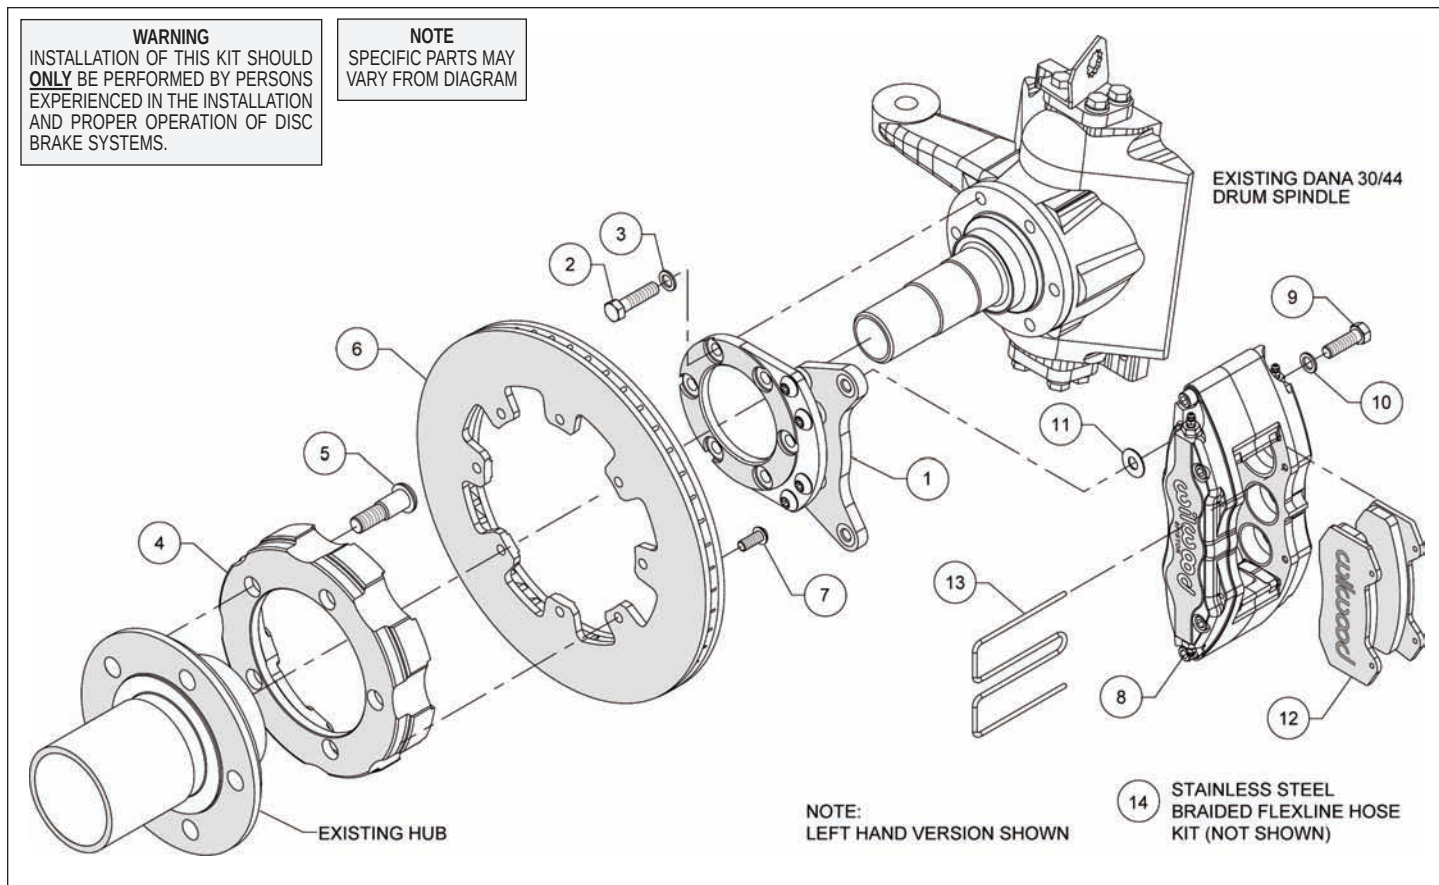
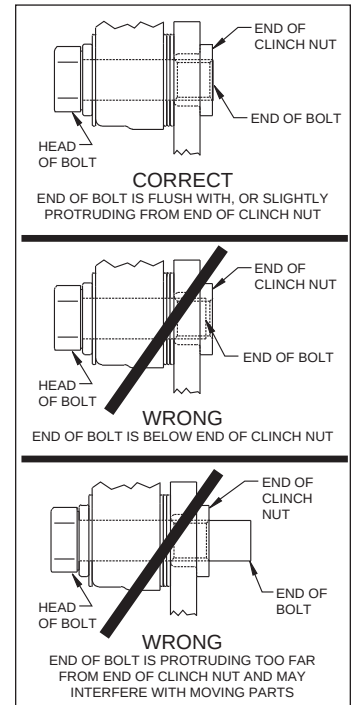

Figure 1. Typical Installation Configuration
Figure 3. Clinch Nut Engagement Diagram
Assembly Instructions (numbers in parenthesis refer to the parts list and Figure 1 on the preceding pages): **CAUTION:** All mounting bolts must fully engage clinch nuts. Be sure to check that all bolts are either flush or protruding through flanged side of clinch nut after shimming, Figure 3.
- Orient the caliper mount bracket (1) as shown in Figure 1 and Photo 1, and install using bolts (2), and washers (3). Ensure that the flanged heads of the clinch nuts in the bracket are facing outboard, Photo 1. Temporarily tighten the mounting bolts. **NOTE:** The bracket must fit squarely against the mount bosses on the upright. Inspect for interference from casting irregularities, machining ridges, burrs, etc. Remove bolts one at a time, apply red Loctite® 271 to the threads and torque to 40 ft-lb.
- Orient the hat (4) and the OEM hub as shown in Figure 1 and Photo 2. **NOTE:** The hat must fit flush against the axle hub or excessive rotor run out may result. Press fit the wheel studs (5) thru the holes in the hat and into the existing hub. **NOTE:** We recommend this procedure be performed by a qualified machinist.
- Orient the rotor (6) and the hat/hub assembly as shown in Figure 1 and Photo 3. Attach rotor to hat using bolts (7). Using an alternating sequence, apply red Loctite® 271 to the threads, and torque to 25 ft-lbs.
- NOTE:** Please reference the caution statement at the beginning of the assembly instructions. This kit contains distinct right and left hand calipers that must be mounted in a specific direction, as described below. Mount the caliper (8) onto the caliper mounting bracket (1) using bolts (9) and washers (10), as shown in Figure 1. Initially place one .035" thick shim (11) on each bolt between the caliper and the bracket, Photo 5. Ensure that the caliper is mounted so the largest pistons are at the rotor exit end of the caliper, in relation to the direction of rotor rotation. Temporarily tighten the mounting bolts and view the rotor (6) through the top opening of the caliper. The rotor should be centered in the caliper, Photo 6. If not, adjust by adding or subtracting shims
between the bracket and the caliper. Always use the same amount of shims on each of the two mounting bolts. **NOTE:** The end of each bolt must be flush with or slightly protruding from the head of the clinch nut, as shown in Figure 3. If necessary place spare shims between washer (10) and caliper mounting ear to achieve the proper clinch nut engagement. Once the caliper alignment and clinch nut engagement are correct, remove the bolts one at a time, apply red *Loctite*® 271 to bolt threads, and torque to 40 ft-lb.